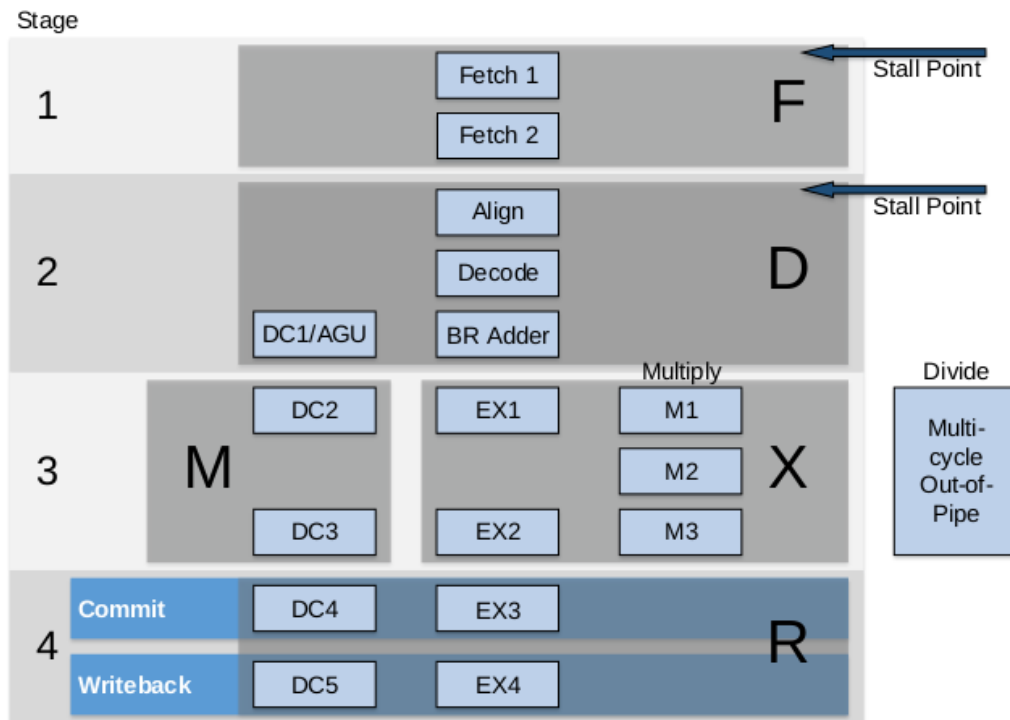

Figure 3. VeeR EL2 core microarchitecture
Western Digital developed three RISC-V cores over the past few years: VeeR EH1 (formerly called SweRV), VeeR EH2 (or SweRV EH2 previously), and VeeR EL2 (the core we use in this course, formerly called SweRV EL2). Each core has an Apache 2.0 license. The VeeR EH1 Core (<https://github.com/chipsalliance/Cores-VeeR-EH1>) is a 32-bit, 2-way superscalar, 9-stage pipeline core. The VeeR EH2 Core (<https://github.com/chipsalliance/Cores-VeeR-EH2>) builds on and expands the EH1 Core to add dual threaded capability for additional performance. The VeeR EL2 Core (<https://github.com/chipsalliance/Cores-VeeR-EL2>) is a smaller core with moderate performance (see Figure 3) is a scalar 4-stage core with one execution pipeline, one load/store pipeline, one multiplier pipeline, and one out-of-pipeline divider. There are two stall points in the pipeline: 'Fetch' and 'Decode'. The figure also shows how VeeR EL2's logic stages have been shifted up with respect to VeeR EH1 and merged into 4 stages named Fetch (F), Decode (D), Execute/Memory (X/M), and Retire (R). Also shown is additional logic such as a new branch adder in the D stage, not included in VeeR EH1. The branch mispredict penalty is either 1 or 2 cycles in VeeR EL2. The merged F stage performs the program counter calculation and the I-cache/ICCM memory access in parallel. The load pipeline has been moved up so that the DC1 memory address generation (AGU) logic is now combined with align and decode logic to enable a DCCM memory access to start at the beginning of the M stage. The design supports a load-to-use of 1 cycle for smaller memories and a load-to-use of 2 cycles for larger memories. For 1-cycle load-to-use, the memory is accessed and the load data aligned and formatted for the register file and forwarding paths, all in the single-cycle M stage. For 2-cycle load-to-use, almost the entire M stage is allocated to the memory access, and the DC3/DC4 logic combined into the R stage is used to perform the load align and formatting for the register file and forwarding paths. EX3 and EX4/WB are combined into the R stage and primarily used for commit and writeback to update the architectural registers.